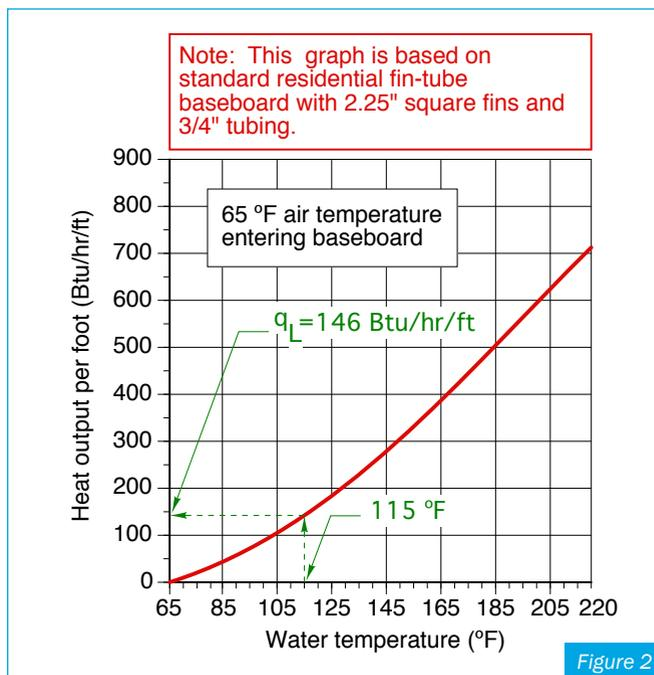

Figure 2
**Step 5:** Find the new average circuit water temperature on the horizontal axis of the graph in Figure 2. Draw a vertical line up from this point until it intersects the red curve. Draw a horizontal line from this intersection to the vertical axis of the graph, and read the heat output of the finned-tube at the lower average circuit water temperature. This number is designated as  $q_L$ . The green lines and numbers in Figure 2 show how  $q_L$  is determined for an average circuit water temperature of 115F.